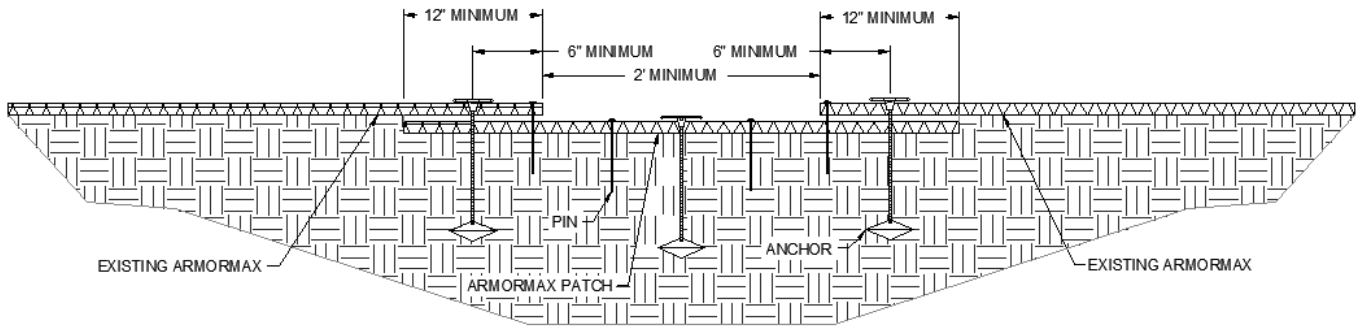
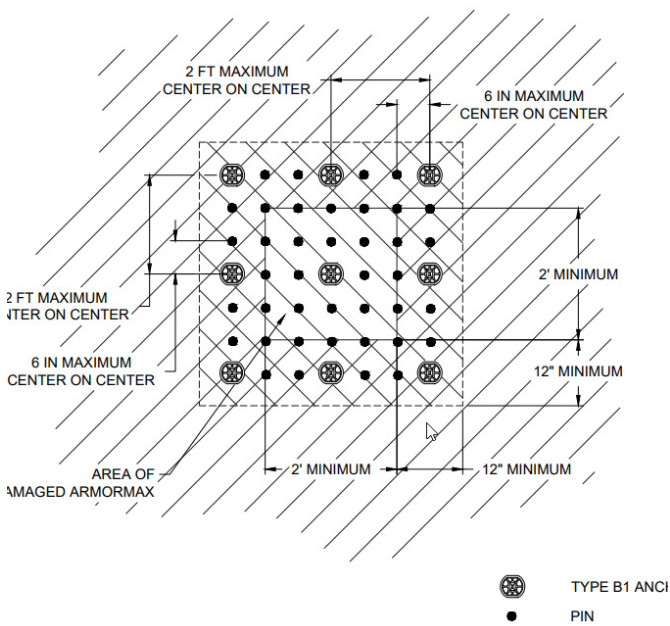

Figure 29: Armormax Patch Cross Section
Figure 30: Armormax Patch Plan View
3. To repair **PROPEX** Armormax, cut out and remove damaged areas in a square configuration a minimum size of 2 ft by 2 ft (0.6 m x 0.6 m). Remove all vegetation and debris atop of **PROPEX** Armormax. Loosen the top 1 in to 2 in (25 mm - 50mm) of soil in the patch area then seed. The subgrade of area to be patched shall be prepared to be smooth and uniform and transition smoothly into the in-situ area. Cut a square **PROPEX** Armormax patch a minimum of 12 in (305 mm) greater than the damaged area for all four sides of the patch. Overlap the patch area in all directions a minimum of 12 in (305 mm). The patch overlaps shall be tucked under the existing damaged **PROPEX** Armormax material (Figure 29 and Figure 30).